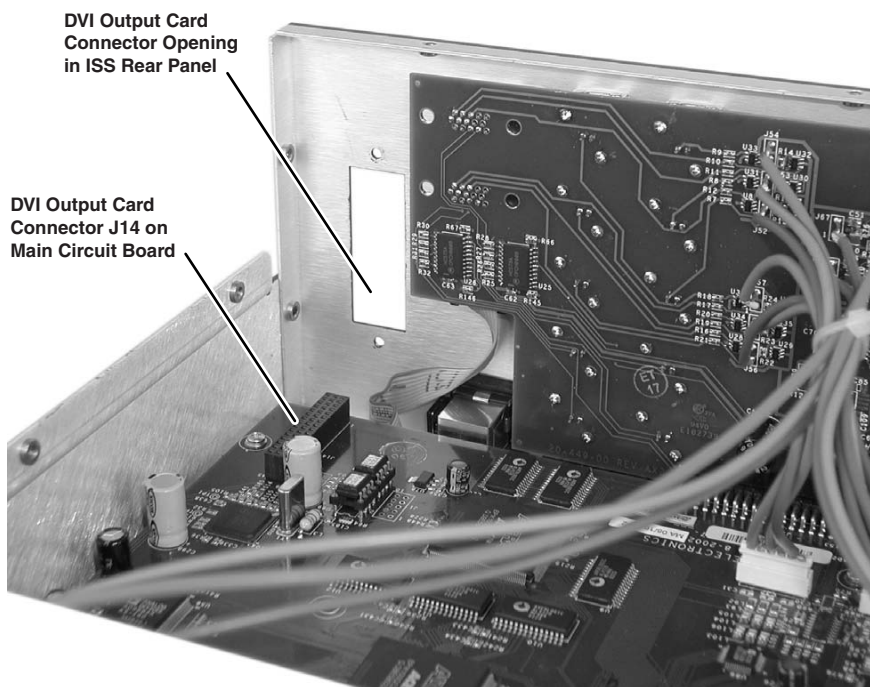

Figure 7-2 — DVI output card connector opening and socket J14
2. Locate the DVI output card connector opening on the rear panel and the DVI output card connector J14. When viewed from the front, connector J14 is in the far left corner of the main circuit board (figure 7-2).